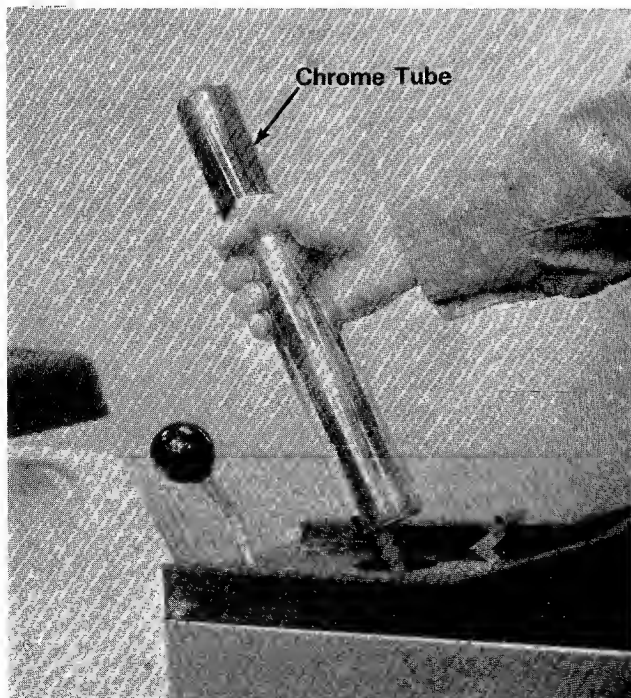

Figure 3
3. Place the large chrome tube over the extension being sure it is seated on the bottom. (See figure 3.)